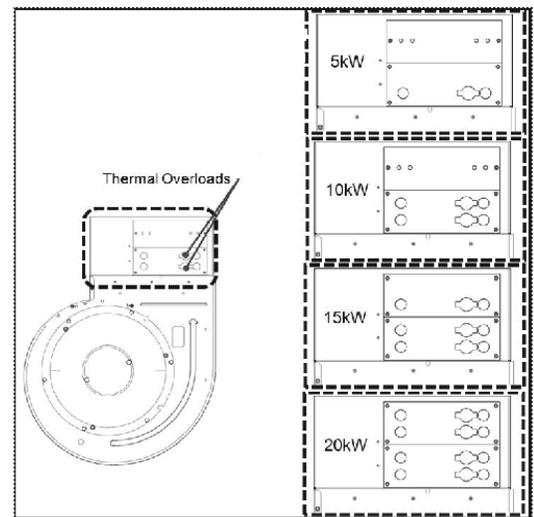

Fig. 6 – Thermal Overloads Cut-Outs A210071
5. In preparation for heater element installation, orient the heating elements with thermal overloads (cut-outs) as shown in Fig. 6. This will ensure the heater elements are exposed to airflow.
IMPORTANT: If only one heating element is being installed, install it into the position closest to the blower wheel. Cover remaining opening with one of the cover plates removed in step 4 (see Fig. 6).